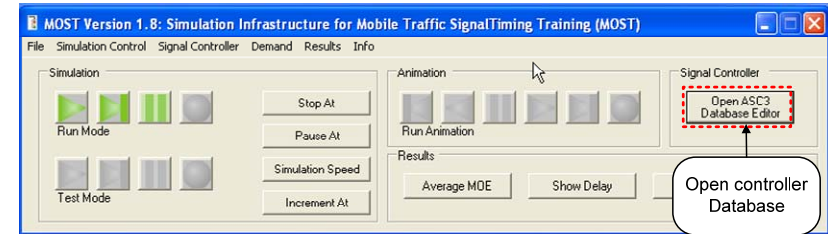

Figure 22 MOST interface
- Select "Open ASC/3 Database Editor" as shown in Figure 22.